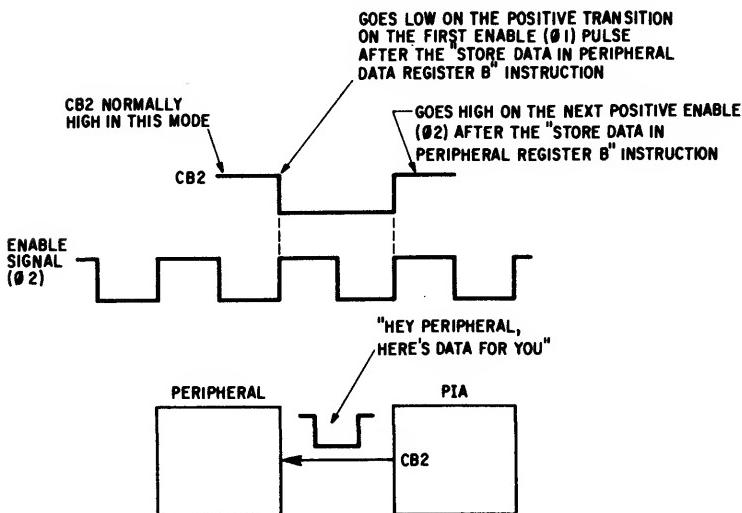

Fig. 9.20 Pulse mode
2. Bit 5,3 of CRB = 101 (Pulse Mode) This mode is used to tell the peripheral that data is available in PIA peripheral data register B (see Fig. 9.20).